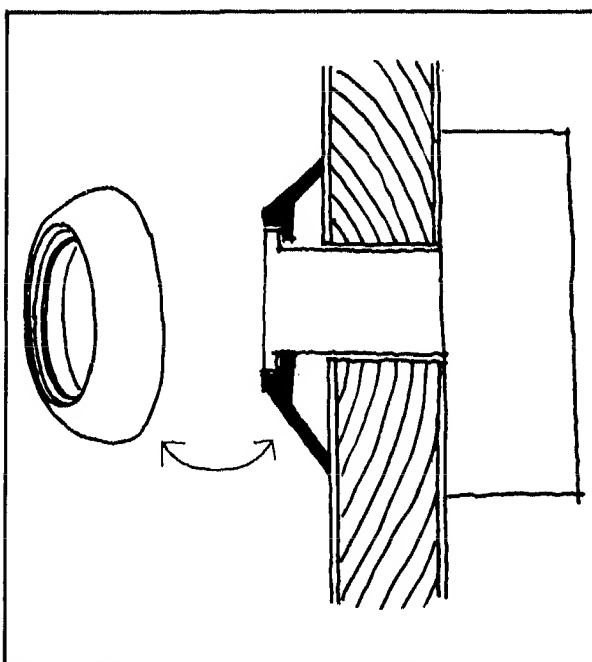

Fig. 25 Bevelled ring.
**Bevelled-ring cylinder guard:** A case-hardened steel ring that prevents the cylinder from being gripped by a tool because of its bevelled shape (see Fig. 25). Scotsman makes a flat, very secure, cylinder guard ring.